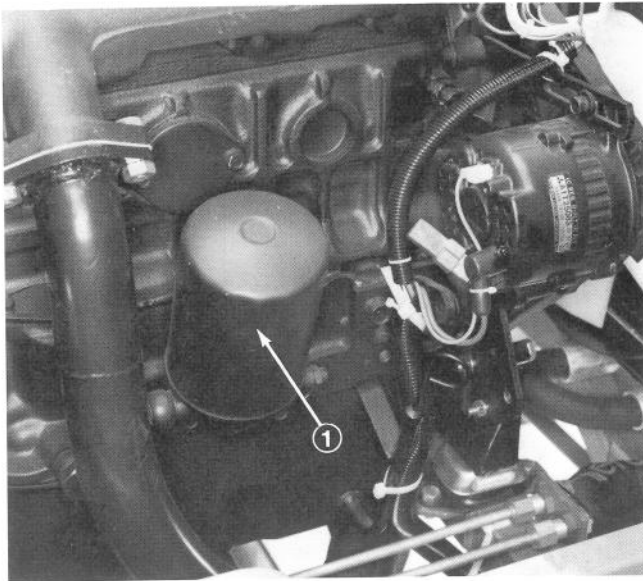

Figure 35
2. Remove oil filter (Fig. 35). Apply a light coat of clean oil to the new filter seal before screwing it on. DO NOT OVER-TIGHTEN.